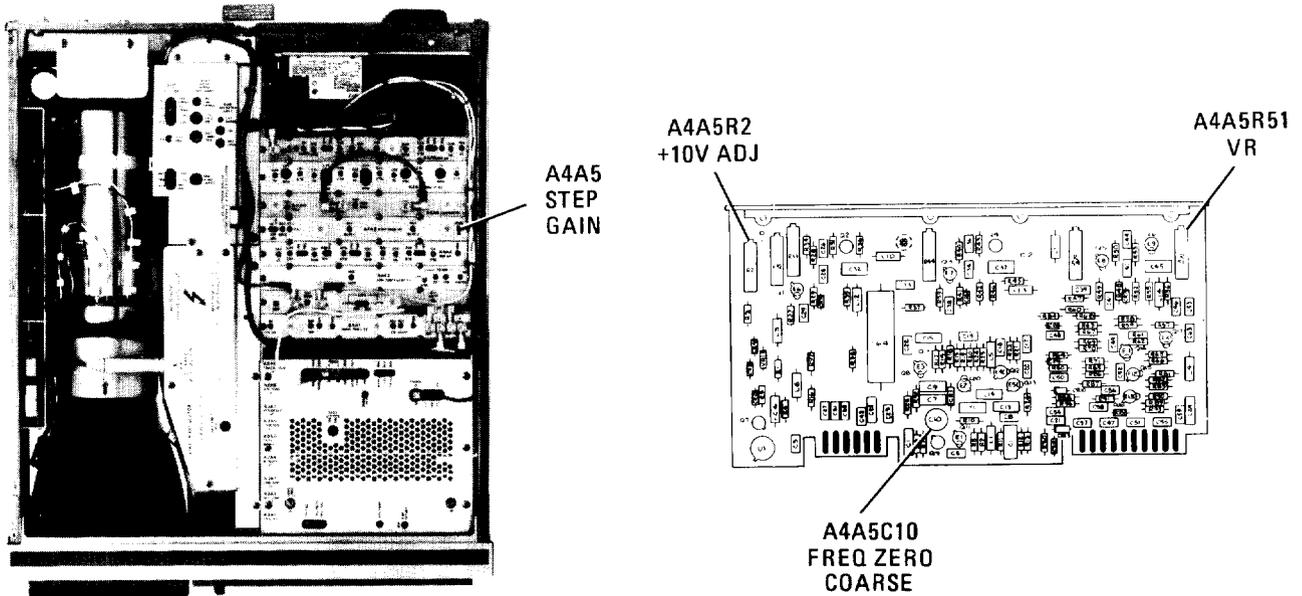

FIGURE 35. LOCATION OF .1-dB GAIN STEP, 18.4 MHz LO, AND +10V ADJUSTMENTS
31. Adjust A4A5R51 VR for MKR Δ level of -0.10 dB. Refer to Figure 35 for location of adjustment.
35. Adjust A4A5C10 FREQ ZERO to peak signal trace on CRT. Refer to Figure 35 for location of adjustment.